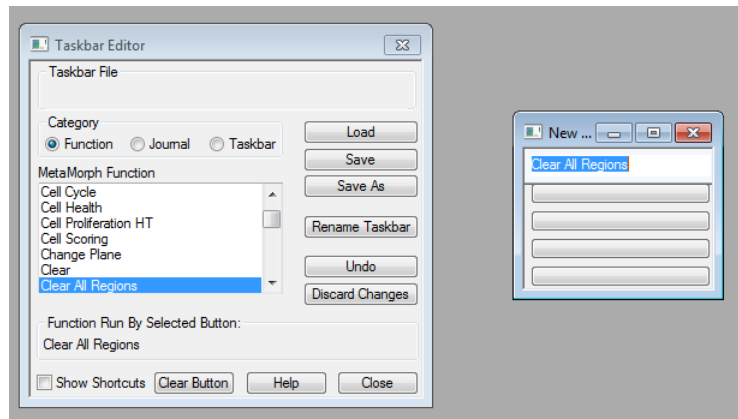

Figure 7-3: Adding a function to a taskbar
7. When you have located the item you want to add to the taskbar, double-click its entry in the list to add it to active button in the taskbar as shown in Figure 7-3.